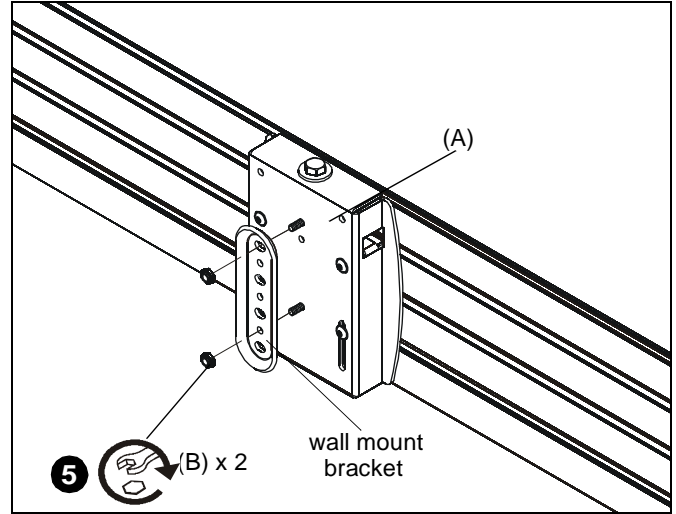

Figure 3
5. Install wall mount plate onto OFB212 bracket using two #10-24" lock nuts (B). (See Figure 3)